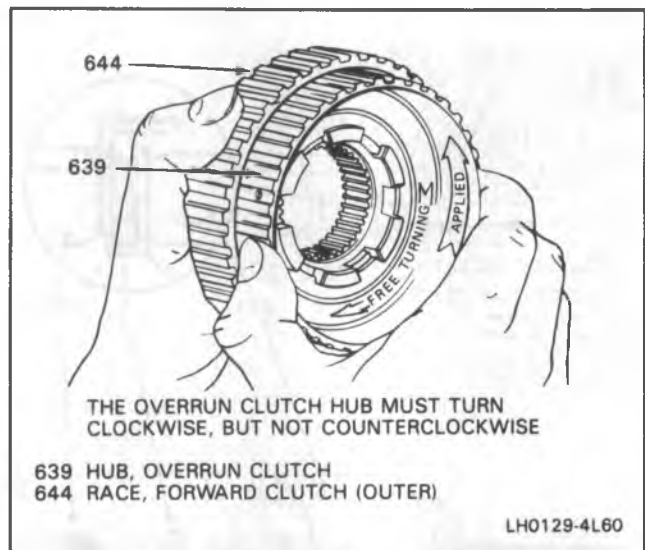

Figure 71 Sprag Operation Check
1. Forward clutch sprag assembly (642) into the outer race
2. One sprag retainer ring (643) onto the race and retainer assembly
5. Overrun clutch hub (639)
6. Overrun clutch hub retaining snap ring (638) into the snap ring groove of the race and retainer assembly
7. Test the assembly for proper operation as shown (Figure 71).